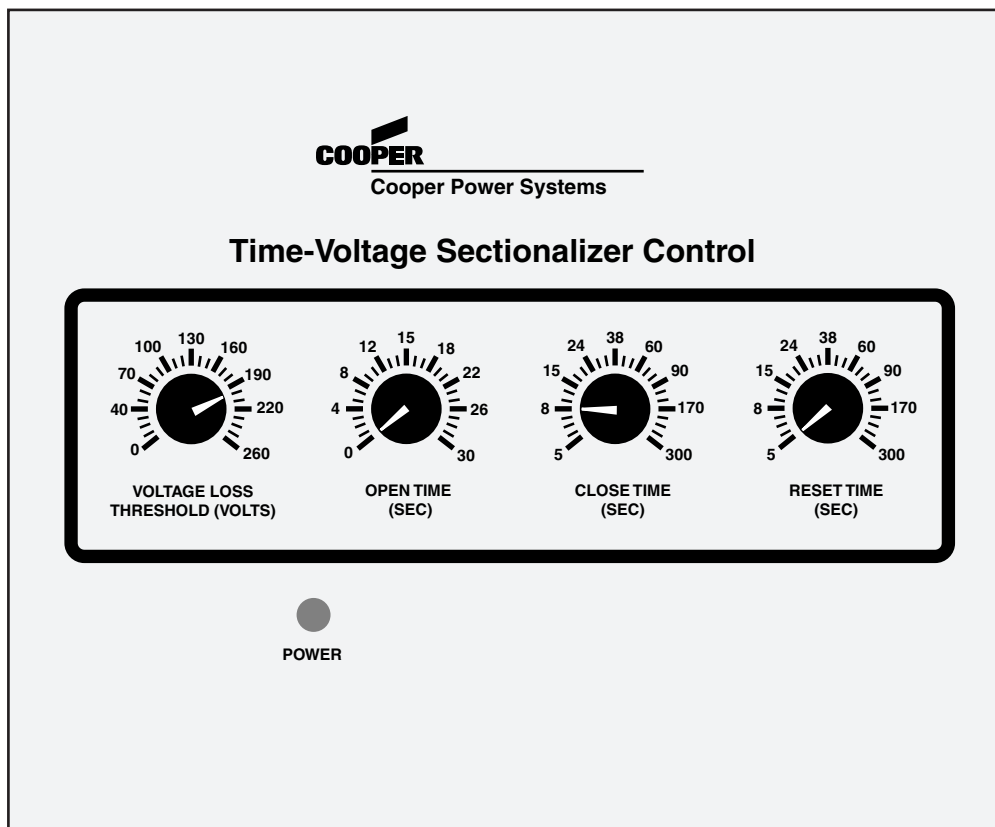
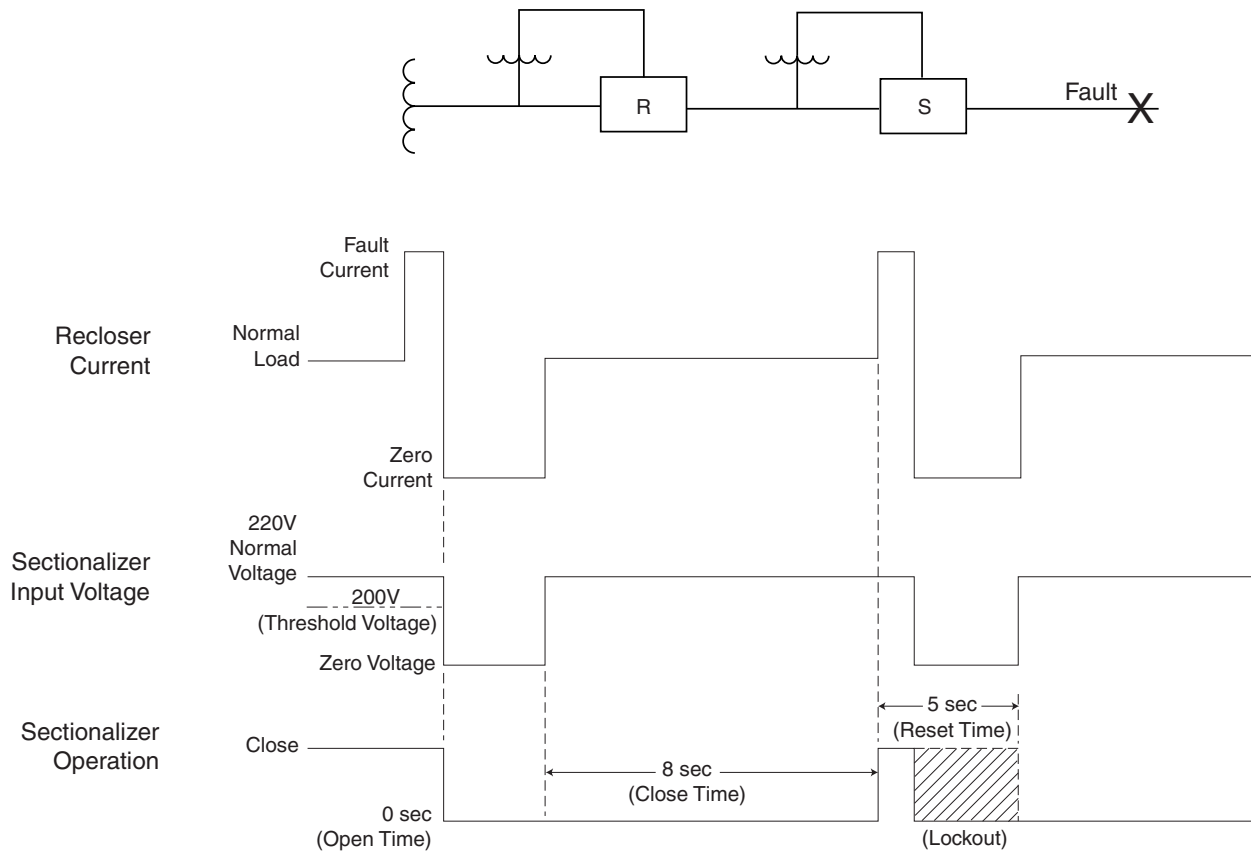

Figure 5.
Figure 6.
Figure 6 shows the coordinated operation of an upline recloser with a downline TVS sectionalizer. In the following example, the TVS operates to lockout to isolate the fault during the fast operations of the upline recloser and utilizes the settings illustrated in Figure 5.
When the recloser senses an overcurrent or a fault, it begins its sequence of operations. Figure 6 shows two recloser fast operations.
After a time delay, the recloser closes and voltage is restored. The TVS detects that voltage has been restored, but remains open for eight seconds (which is the CLOSE TIME setting shown in Figure 5).
4. Adjust control settings as shown in Figure 5 for the following tests.
Use the TVS control settings shown in Figure 5.